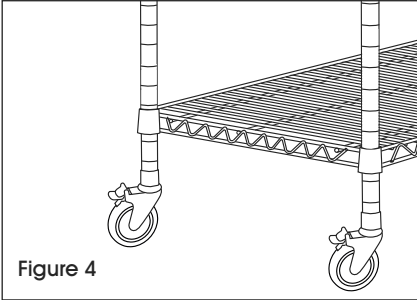

Figure 4
3. Stand unit upright. Gently tap shelf down to secure it. (See Figure 4)